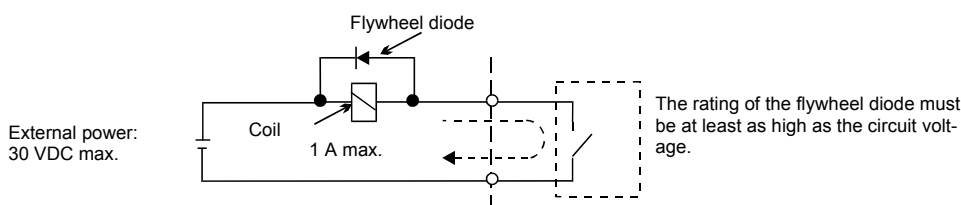

Fig 6 Flywheel Diode Connection
- \*3. When driving a reactive load, such as a relay coil with DC power supply, always insert a flywheel diode as shown in Fig 6